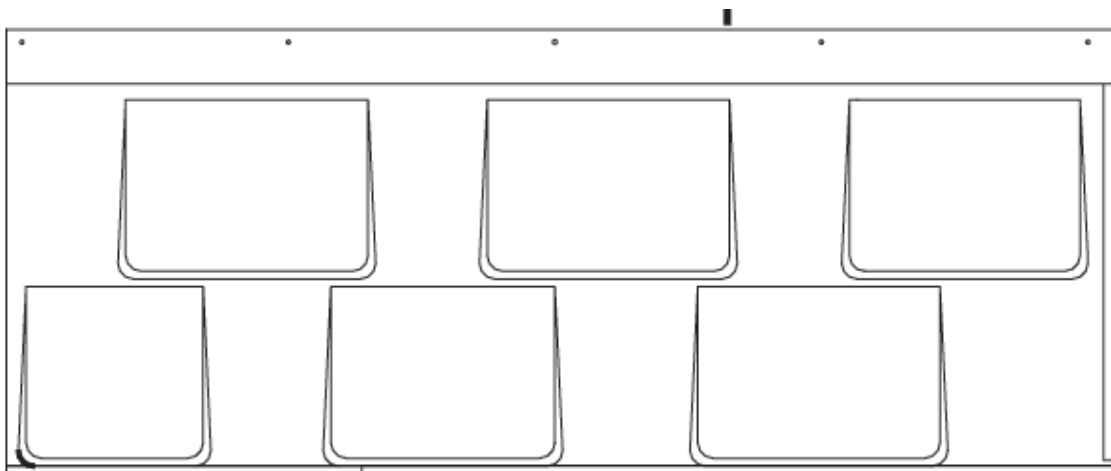

FIGURE 1: ADVANTA® SHINGLE ROOF PANEL
3.2 Profiles – *Advanta*® Shingle Roof Panels are 14 inches by 36-½ inches with a 12 inch by 36 inch exposed area. The installed weight is 0.95 psf. See Figures 1 and 2.